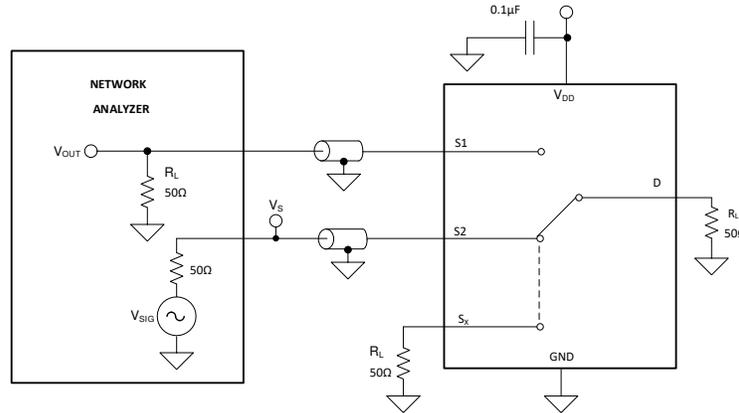

Figure 8-9. Channel-to-Channel Crosstalk Measurement Setup
Crosstalk is defined as the ratio of the signal at the drain pin (D) of a different channel, when a signal is applied at the source pin (Sx) of an on-channel. **Figure 8-9** shows the setup used to measure, and the equation used to compute crosstalk.